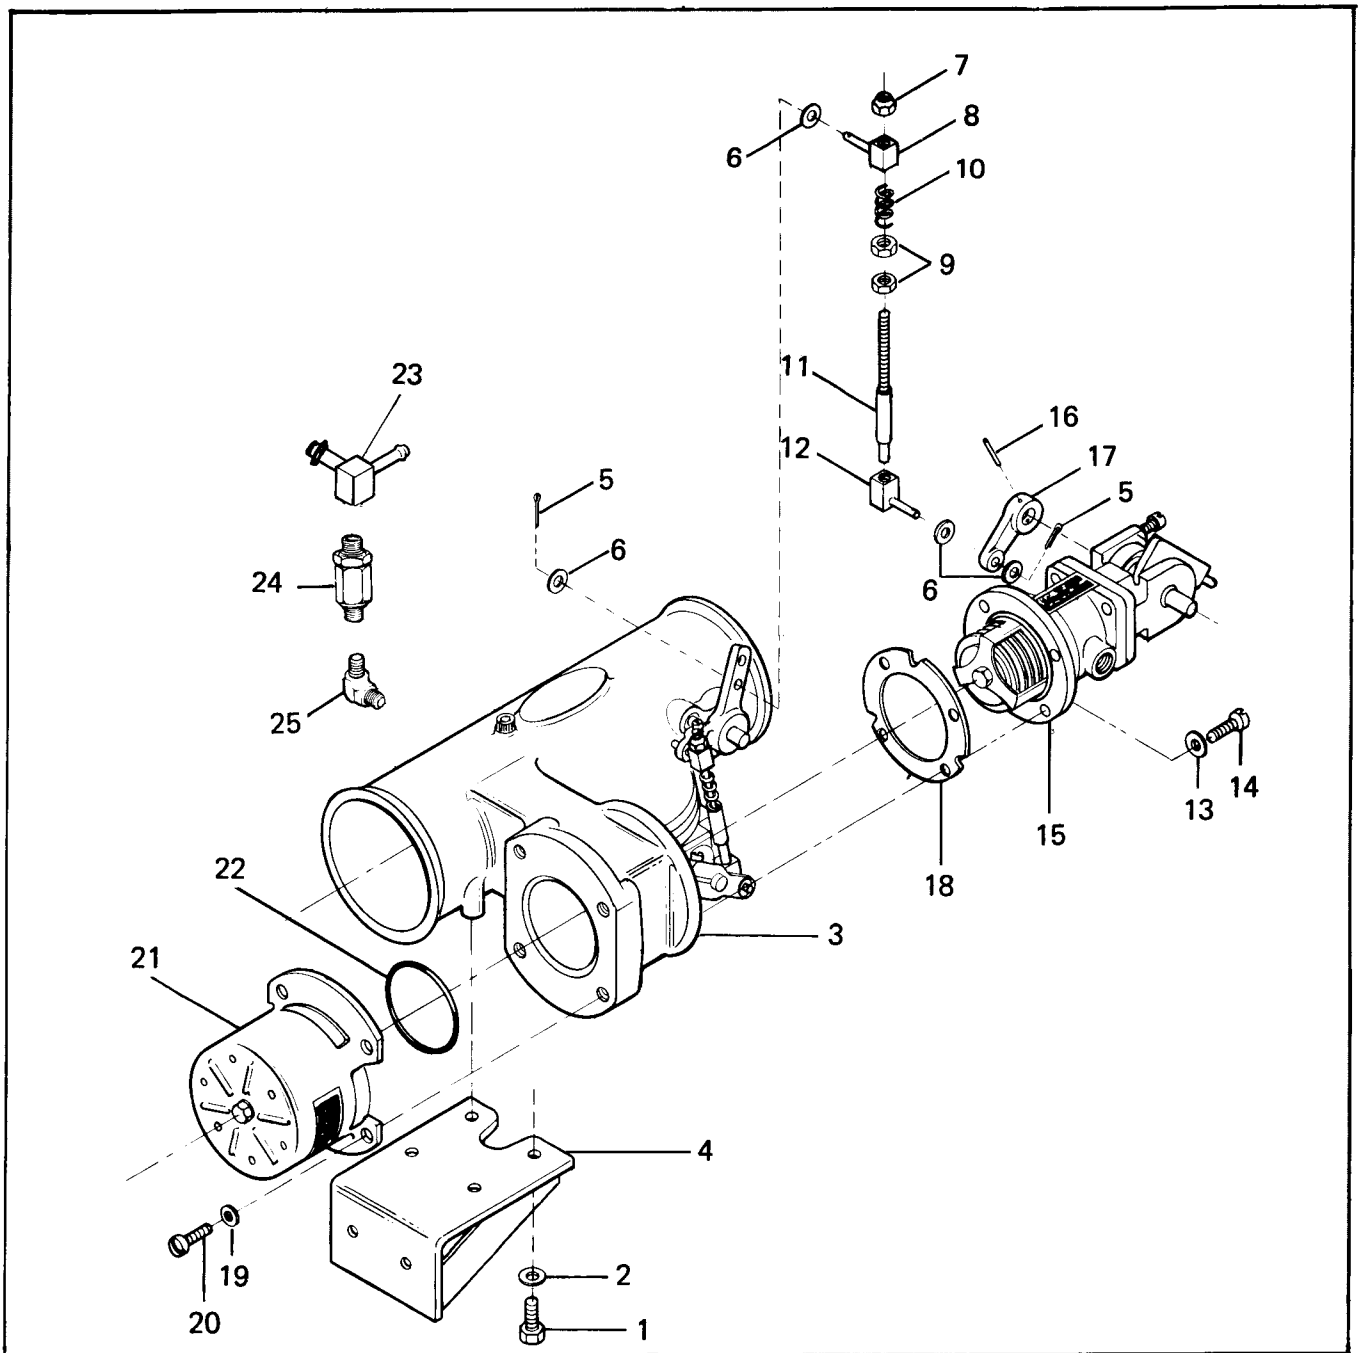

FIGURE 9-3 THROTTLE AND CONTROL ASSEMBLY
e. (Figure 9-3) Remove attaching parts and lift control unit (3) from bracket (4).